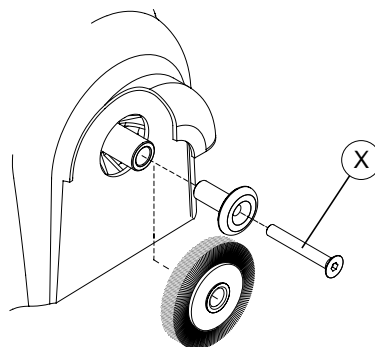

Fig. 18
- 2) use the wrench provided to loosen the brush locking screw (X) (fig.18);